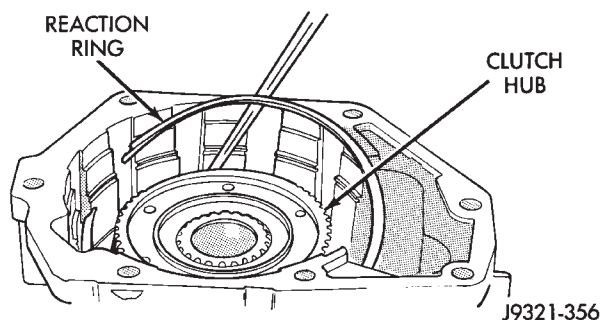

Fig. 200 Overdrive Clutch Reaction Snap Ring Removal/Installation
- (2) Remove overdrive clutch reaction snap ring (Fig. 200). Note that snap ring is located in same groove as wave spring.